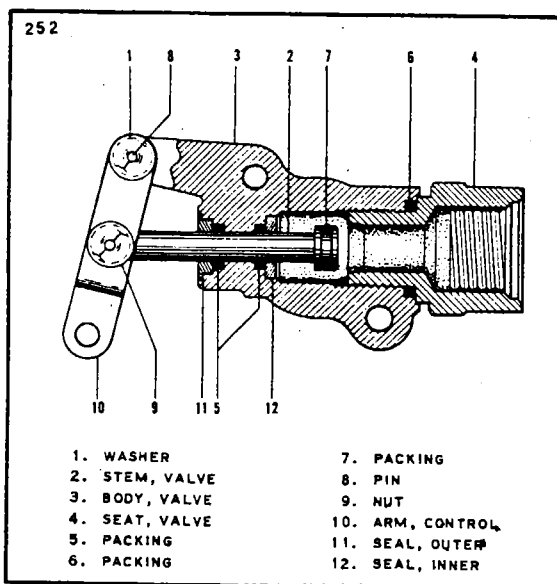

Figure 9-7. Cross-feed Valve
9-21. DISASSEMBLY OF CROSS-FEED VALVE. (Refer to Figure 9-7.)
- 9-23. ASSEMBLY OF CROSS-FEED VALVE. (Refer to Figure 9-7.)
- a. If seat valve (4) was removed, install the "O" ring packing (6) and assemble the seat fitting on the valve body (3).
- c. Push the stem (2) into the valve.
- d. Connect the control arm (10) with the stem and secure with pin (8) and nut (9).